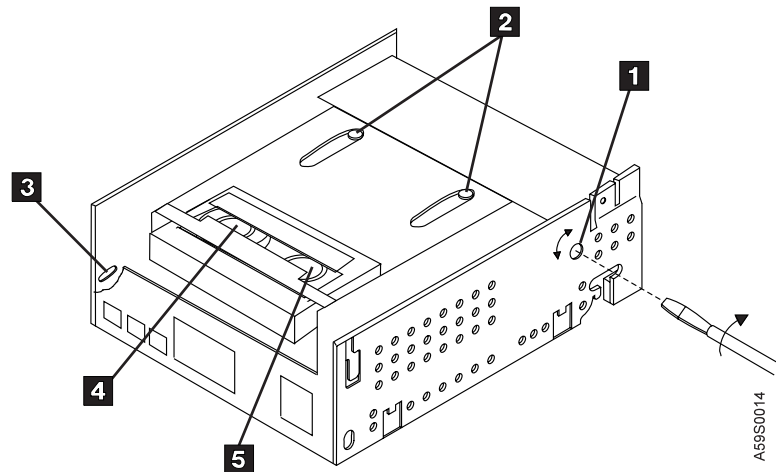

Figure 18. Manually Removing the Tape Cartridge
5. Locate the access hole ( **1** in Figure 18) on the right rear of the drive chassis. The hole allows access to the mode motor gear.